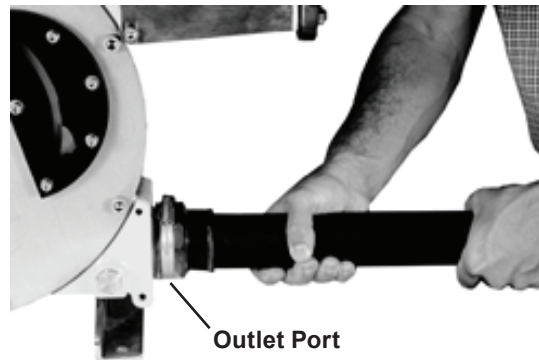

Figure 8
3. Insert hose at the outlet port. See Figure 8.
2. Disassemble the seal flange (25) and remove the shaft seal with a screwdriver or a similar tool.
3. Take the new shaft seal (26) between the thumb and index fingers and form a "figure 8". Insert seal into its groove. See Figure 17.